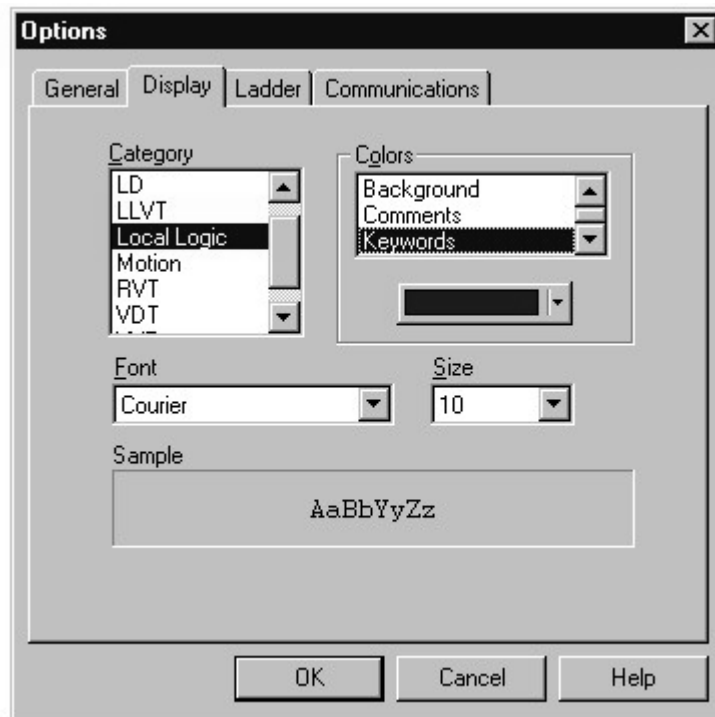

Figure 10-17. Options Dialog Box
- **Options** allows the user to set General (language-related) and Display (colors, fonts), Ladder (show fields, cell width), and Autoconnect options. This menu selection opens the dialog box that allows the user to select the font and color coding for Local Logic and Motion Program keywords. (Figure 10-17)